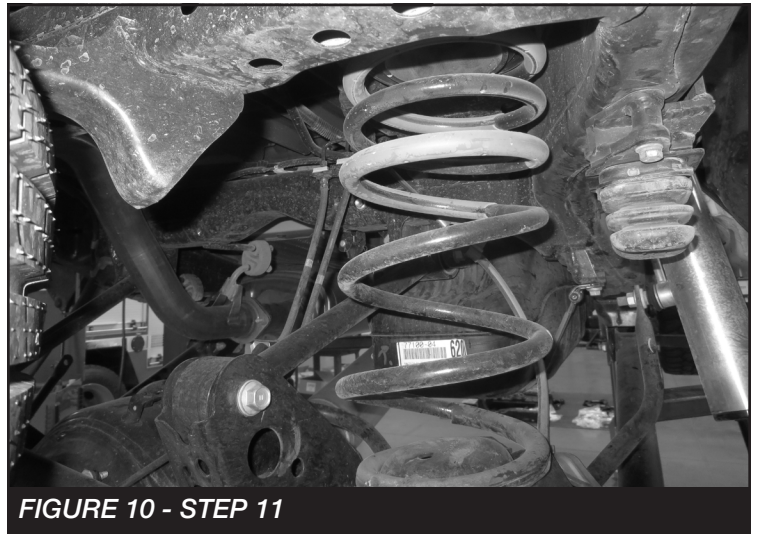

FIGURE 10 - STEP 11
11. Reinstall the rear coil springs. **SEE FIGURE 10**